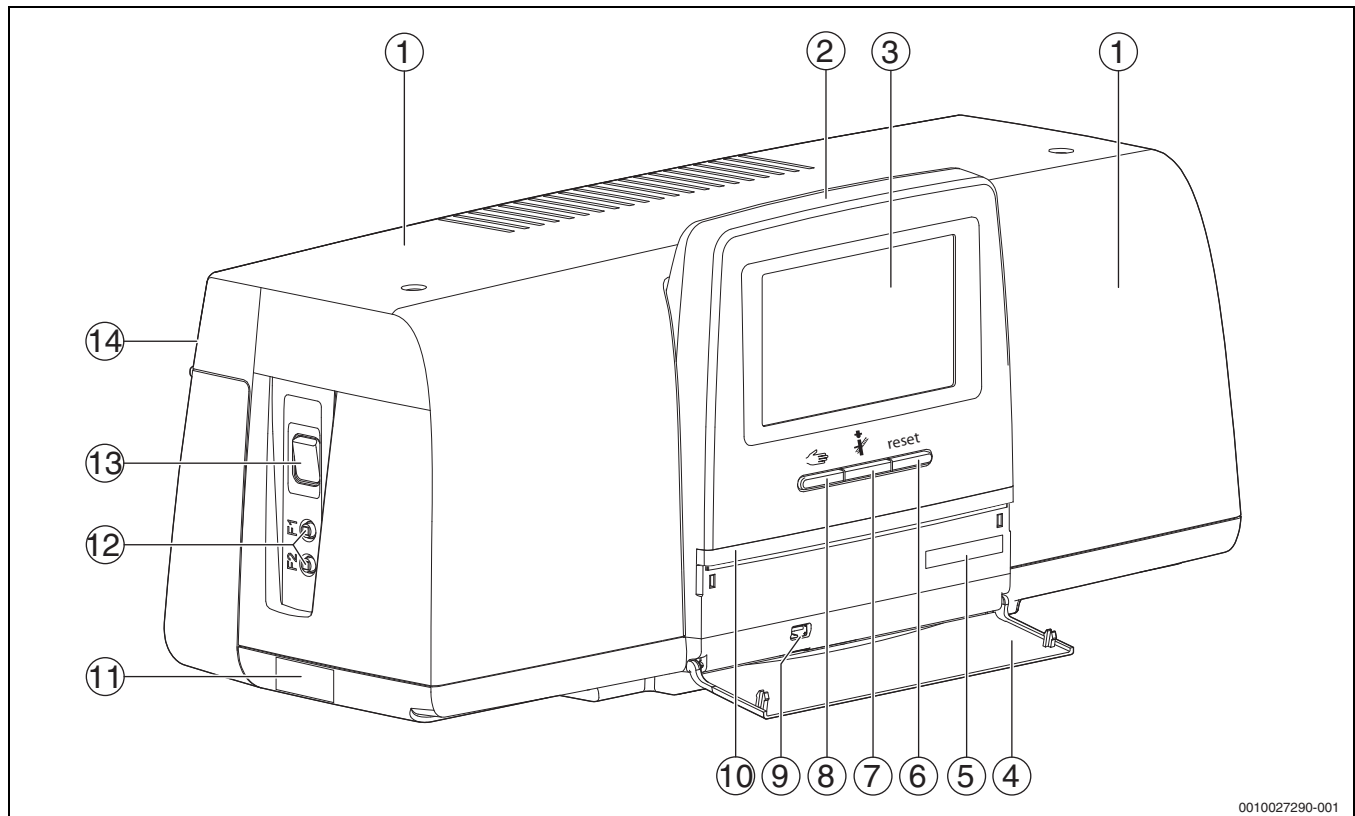

Fig. 6 Overview of the control unit and the control elements
The status of the system, the functions and system components is displayed via the status display (→ Fig. 12, [2], [6], page 12) and the LED status display (→ Fig. 6, [10], page 8):
- ▶ Switch control unit On/Off at switch (→ Figure 6, [13], page 8).